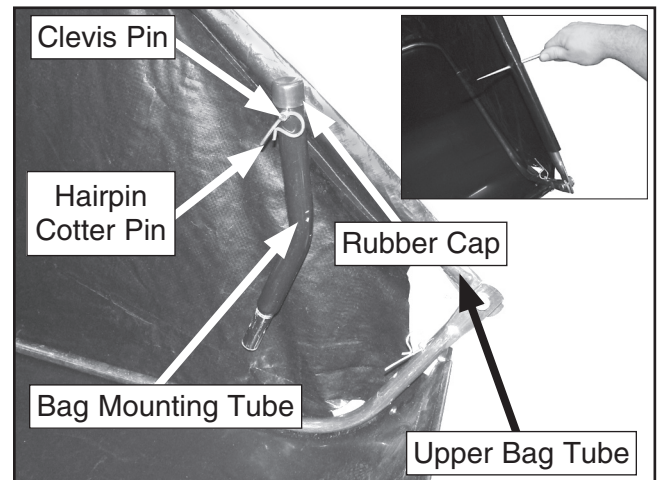

Figure 16. Bag mounting tube.
- Feel along the length of the upper bag tube for the hole in the area indicated by the **Figure 16** inset. Puncture the leaf bag using an awl or similar device, as shown. Attach the bag mounting tube to the upper bag tube with an M8 x 50 clevis pin, and secure it with a 3mm hairpin cotter pin. Place a rubber cap over the end of the bag mounting tube, as shown in **Figure 16**. Repeat for both sides.